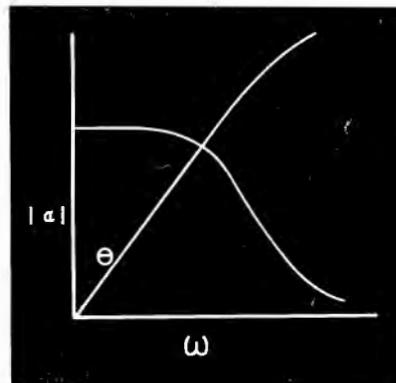

Figure 4
The first form is in complex notation, Eq. (5), and the second in the equivalent trigonometric notation, namely, an amplitude at an angle (given by its arctangent), while the third form expresses more generally the fact that the gain may be represented by a magnitude which is a function of the angular frequency ω , at an angle which is also a function of ω . The two components of the gain are plotted independently in Figure 4. It is evident that the amplitude of the gain drops off with increase in ω and approaches zero asymptotically while the phase shift is not linear with frequency except approximately for a short distance from zero frequency. Reference to Eq. (5) indicates that if we wish this amplifier to be approximately flat to a high value of ω it is necessary that $C_t R$ be correspondingly small in order that the product $\omega^2 C_t^2 R^2$ be small compared to unity. For a given value of C_t determined by the shape of tube and circuit layout, such flatness of gain and also linearity of phase shift can be achieved only by the use of a small load resistance R_L , which in turn means that the magnitude of the gain will be small. Thus, so-called video amplifiers that are to be flat to 100,000 cycles or more, often